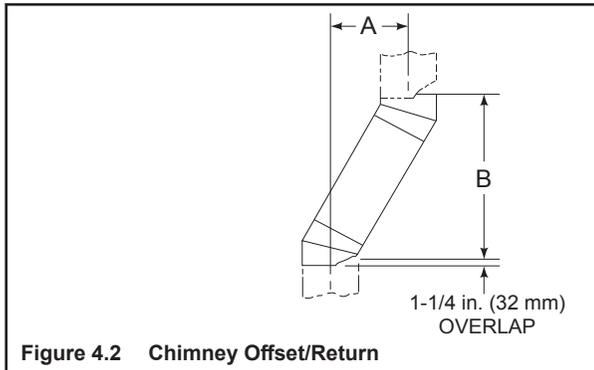

Figure 4.2 Chimney Offset/Return
- Measure the shift needed to avoid the overhead obstruction. Refer to dimension A in Figure 4.2.
Your "A" dimension from Figure 4.2 is 14-1/2 in. (368 mm). Using Table 4.3 the dimension closest to, but not less than 14-1/2 in. (368 mm) is 14-1/2 in. (368 mm) using a 30° offset/return.